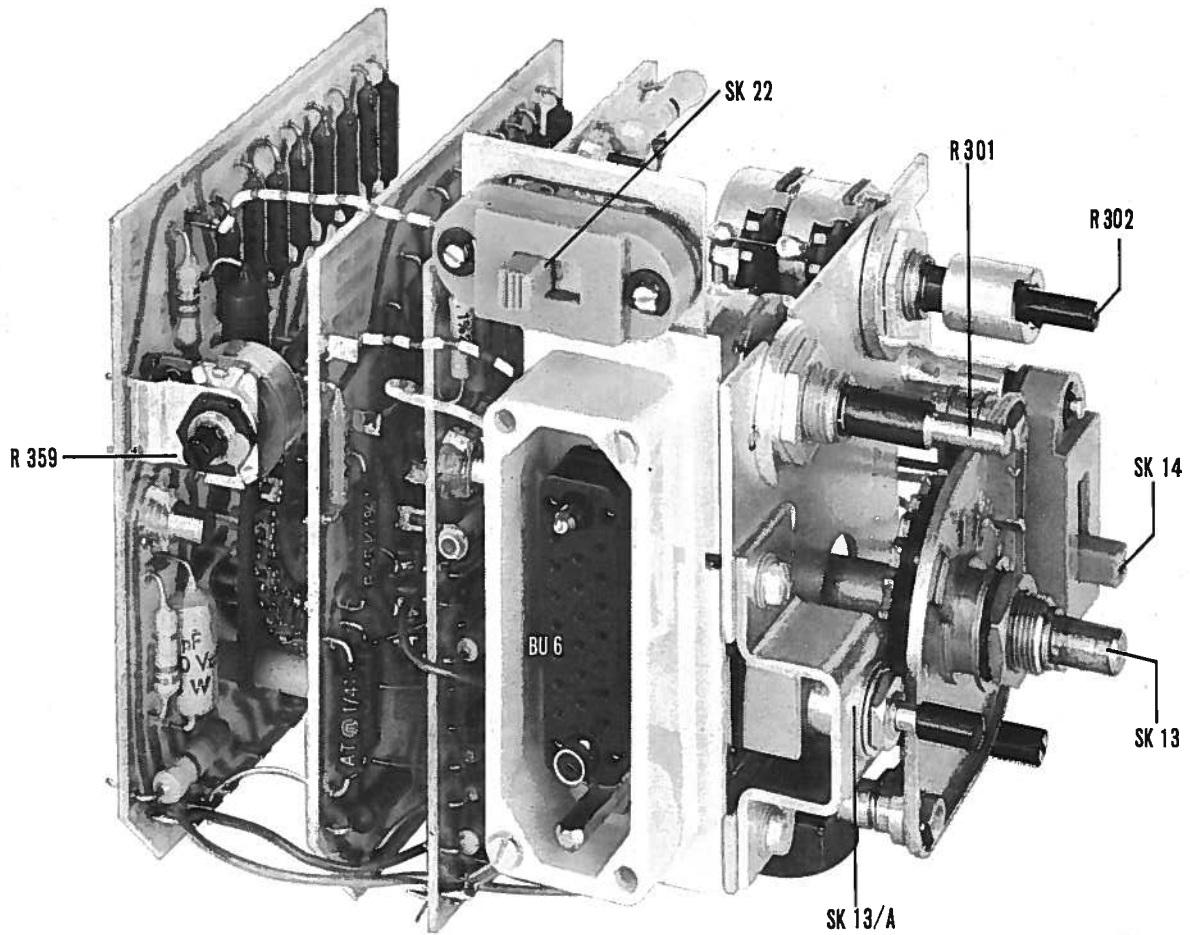

Fig. 66. X-Deflection unit U3, taken off
3. Units U3, U4, U5 and U6 (Fig. 66, 67, 68, 69)